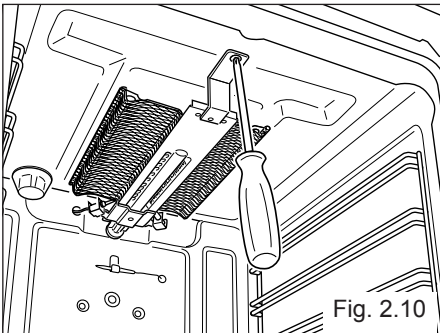

Fig. 2.10
- Remove the burner by unscrewing the front screw (fig. 2.10). Gently suspend the burner as shown in figure 2.11. Be careful not to damage the wire of the electric ignition and the probe of the safety valve.